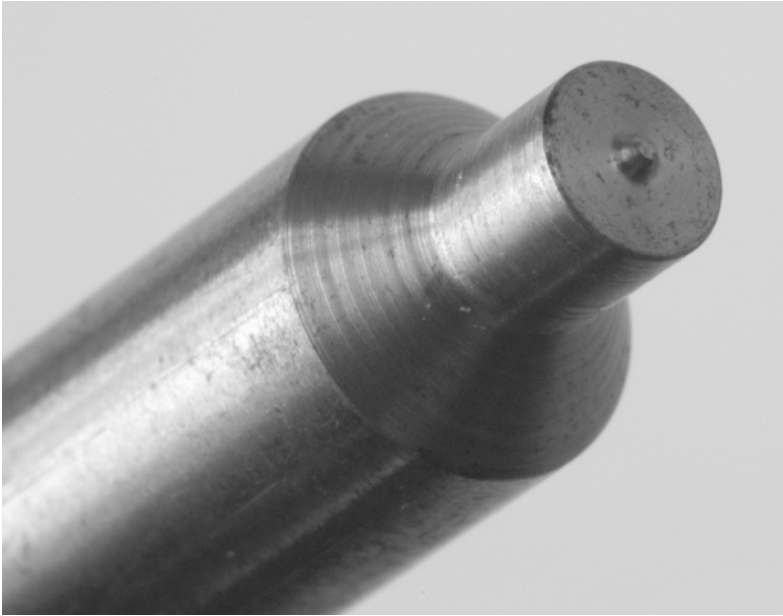

Figure 2.28
- You can now mark through the 5 mm holes to determine where the pillar should be drilled and tapped. The ideal way of marking through is to make a dedicated centre-punch out of a piece of scrap metal having a 5 mm diameter stub faced by a poorly aligned tool so that a slight dimple is left at the centre. The punch can then be dropped through each hole in the channel and tapped lightly with a hammer to leave a precisely positioned dimple ready for drilling (see Figure 2.28).